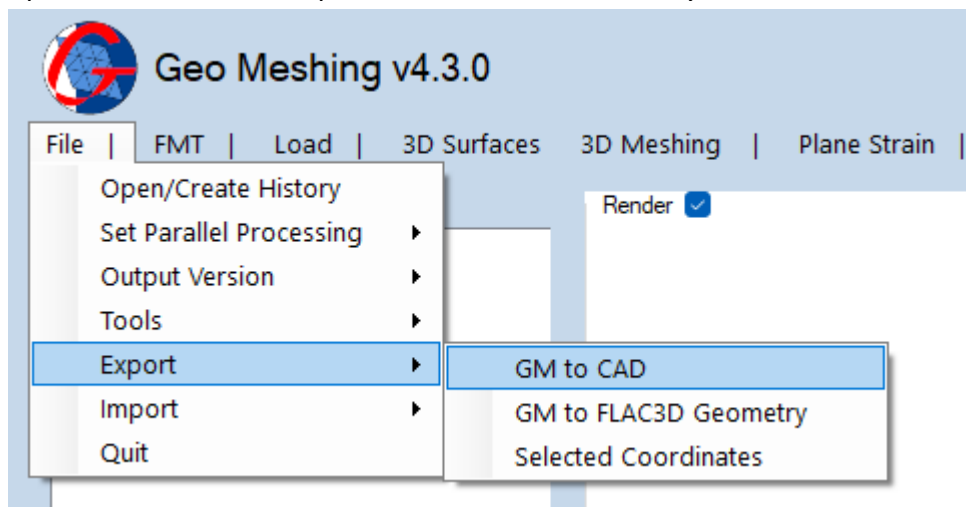

Figure 16: File Menu – Export.
- **File Menu, Export:** This option (shown in Figure 16) has a submenu with three options; *GM to CAD Script*, *GM to FLAC3D® Geometry and Selected Coordinates*.